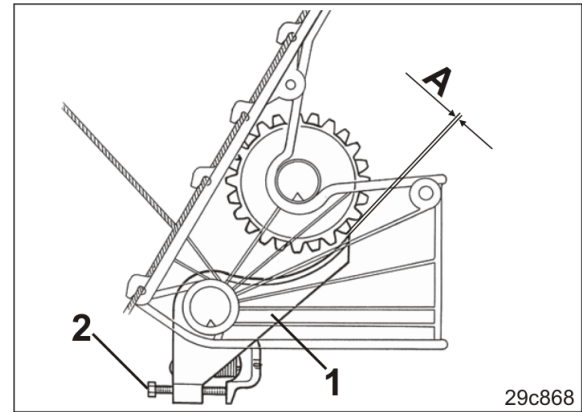

Fig. 236
2. Check that the bottom flaps (Fig. 236/1) are easy to move.
The distance "A" (Fig. 236) between the bottom flap and seed metering wheel is 0.1 mm to 0.5 mm.
5. Use the bolt (Fig. 236/2) to set it to the required distance.